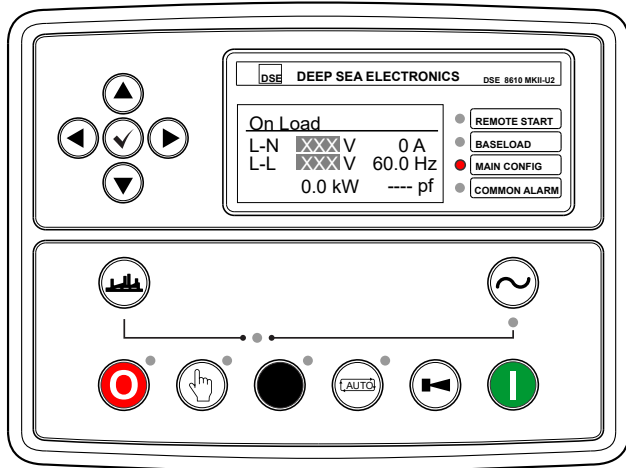

Figure 49. Main Status Screen
18. Verify that the **main status screen** (Figure 49) is displayed.